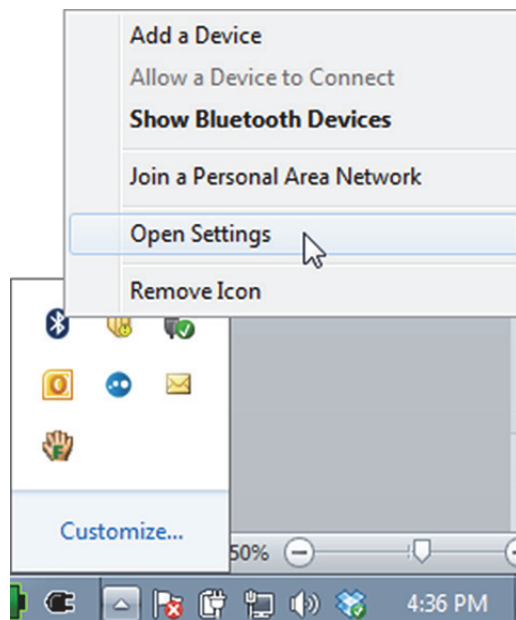

Figure G-3 Opening the Bluetooth® settings box
1. Right click the Bluetooth® icon () in the notification area on the right side of the Windows taskbar and select **Open Settings** (see Figure G-3 on page 178).